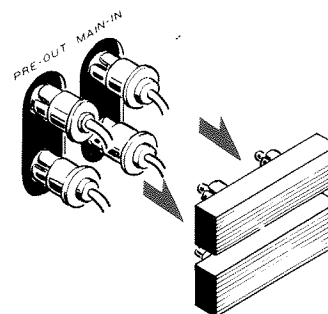

Fig. 13
1. Remove the plugs on the rear panel of the SX-727 (Fig. 13).